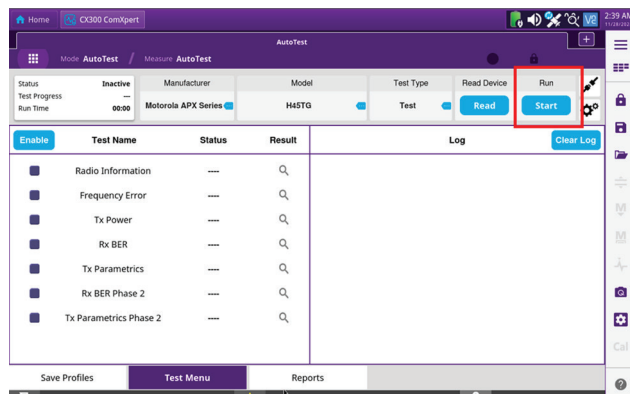

Figure 6
- At this point the user is ready to start the **"Test"** or **"Align and Test"**. (Fig. 6)